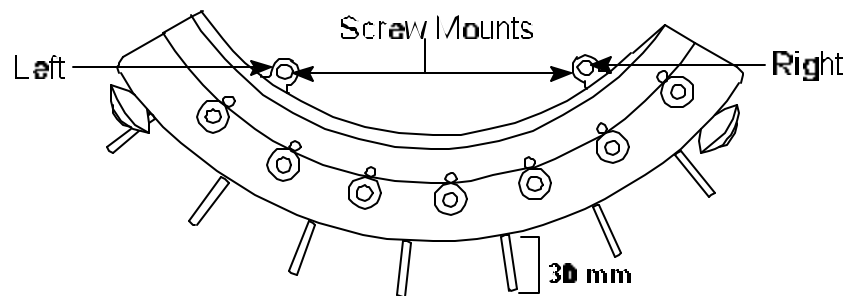

Figure 23
43. **Replace** Thread Apron. With both hands holding Thread Apron, insert right side first then follow through with left side. See *Figure 23*.